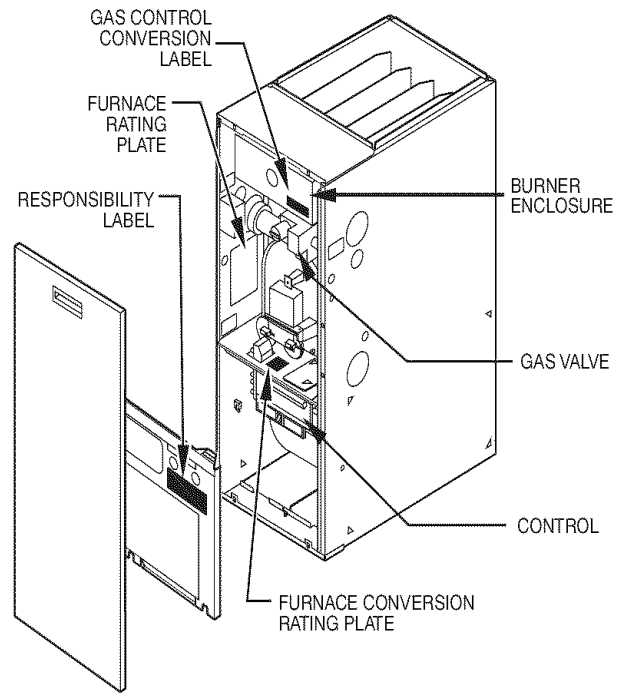

Fig. 16 - Condensing Furnace Label Location
The gas-input rate for propane is the same as for natural gas. See furnace rating plate (Fig. 16) for input rate. The input rate for propane is determined by manifold pressure and orifice size (See Fig. 3.) The gas-valve regulator must be set for high heat first, then medium heat and then set for low heat.
1. Fill in Conversion Responsibility Label 333583-203 and apply to Blower Access Door of furnace as shown. (See Fig. 16.) Date, name, and address of organization making this conversion are required.
2. Attach Conversion Rating Plate Label 333583-201, see Fig. 16 to Outer Door of furnace.